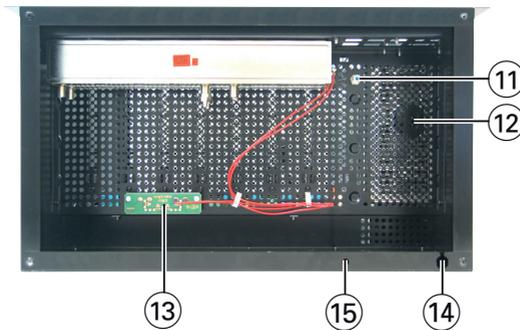
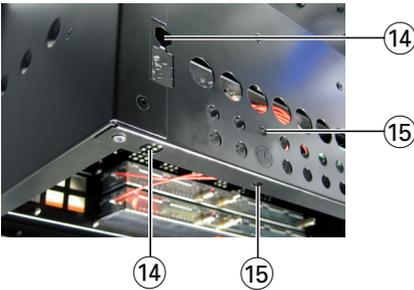

Fig. 15
Fig. 16b
- Mount the power cord + strain relief (Fig. 16a) optionally at the rear/bottom side (14) (Abb. 16b). Connect the power cord to the PSU (12) (Abb. 15).
Mount the ferrite sleeve as near as possible to the housing of the head-end station (fig. 16b).